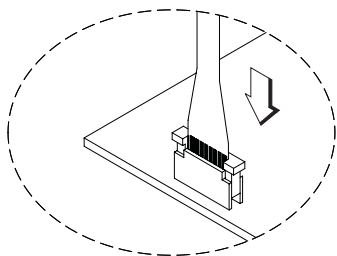

Figure 50. Inserting the flexible cable
2. Remove the flexible cable from the connector (see Figure 50 on page 52).
2. Insert the flexible cable into the connector, making sure that the shiny side is the position shown in Figure 50 on page 52.